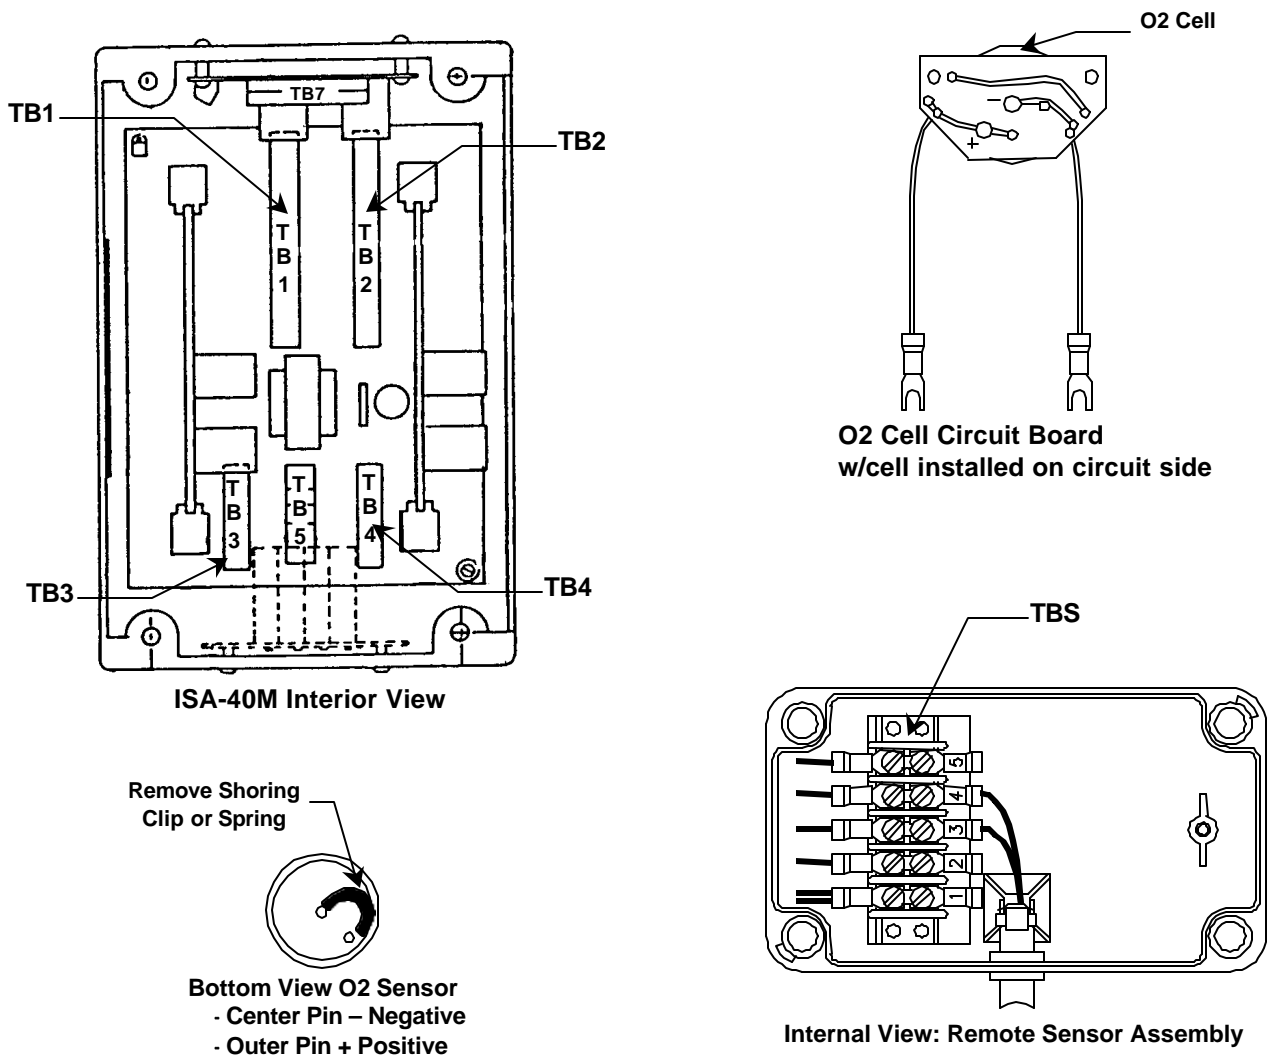

Figure 4: Interior View of Sensor Assembly
| FIGURE 4: INTERIOR VIEW OF SENSOR ASSEMBLY | 6 |
See Figure 4 for location of terminal blocks.
7. Remove the metal shorting clip(or spring) from the cell. See Figure 4.